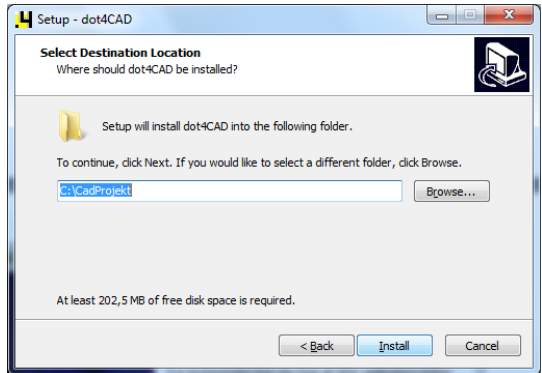

Fig. 39 – selection of the destination location for IntelliCAD
- In the next dialog it is possible to select the location on the computer disc, where the dot4CAD files are to be installed (Fig. 39) – by default it is: **C:\Program Files\dot4CAD;**